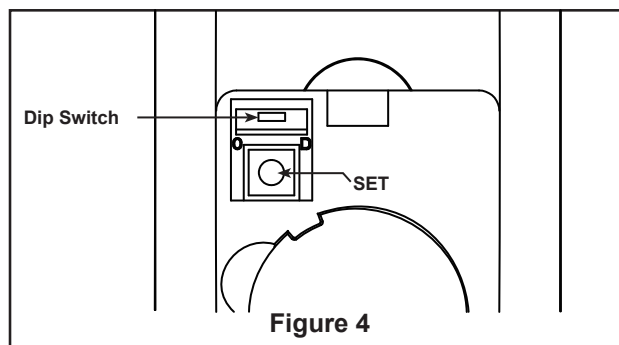

Figure 4
6. Remote Control Setting and Speed (RPM) Setting Process : (Figure 4)